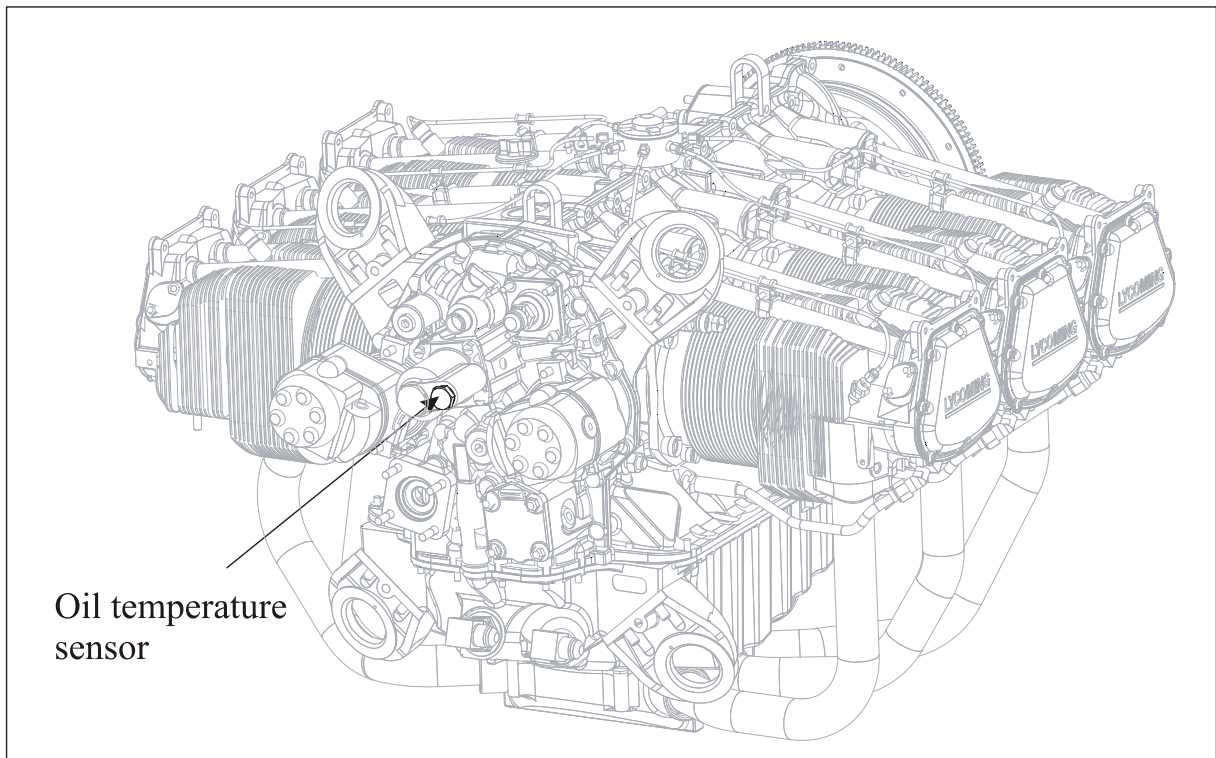

Figure 6
The oil temperature gauge is located in the rear instrument panel. The gauge receives its data electrically from a sensor located on the engine in front of the oil filter screen (refer to Figure 6).
- 2 Remove oil temperature sensor (refer to Figure 6).